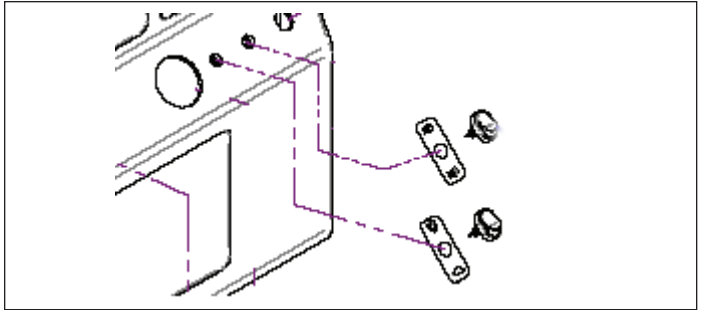

Figure 8-13. Light Switch Mounting
3. Remove round plastic nut on back of console (Figure 8-13) and remove key switch.